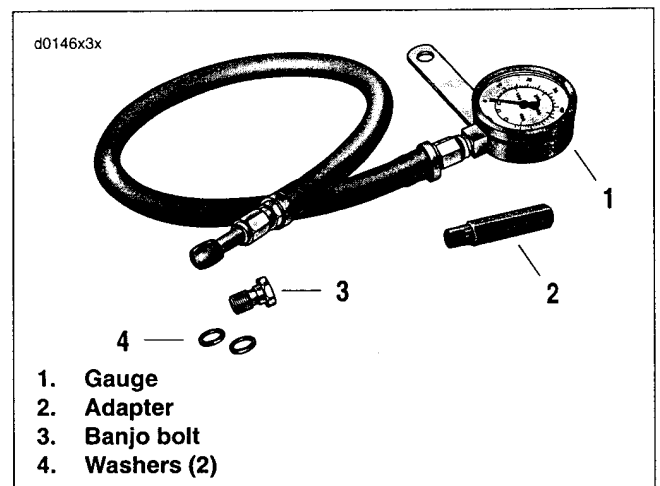

Figure 3-15. Oil Pressure Gauge (Part No. HD-96921-52B)
3. See Figure 3-15. Install adapter (2) in oil pressure switch mounting hole. Tighten adapter snugly.
4. Assemble banjo bolt (3), washer (4), oil pressure gauge (1) banjo fitting and second washer onto adapter and tighten snugly.